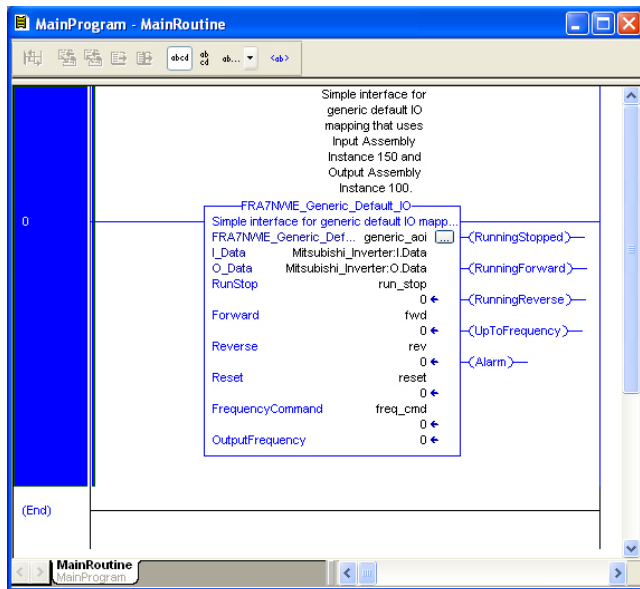

Figure 91: Configure Generic Default AOI
- 10) Edit the add-on instruction according to Figure 91.